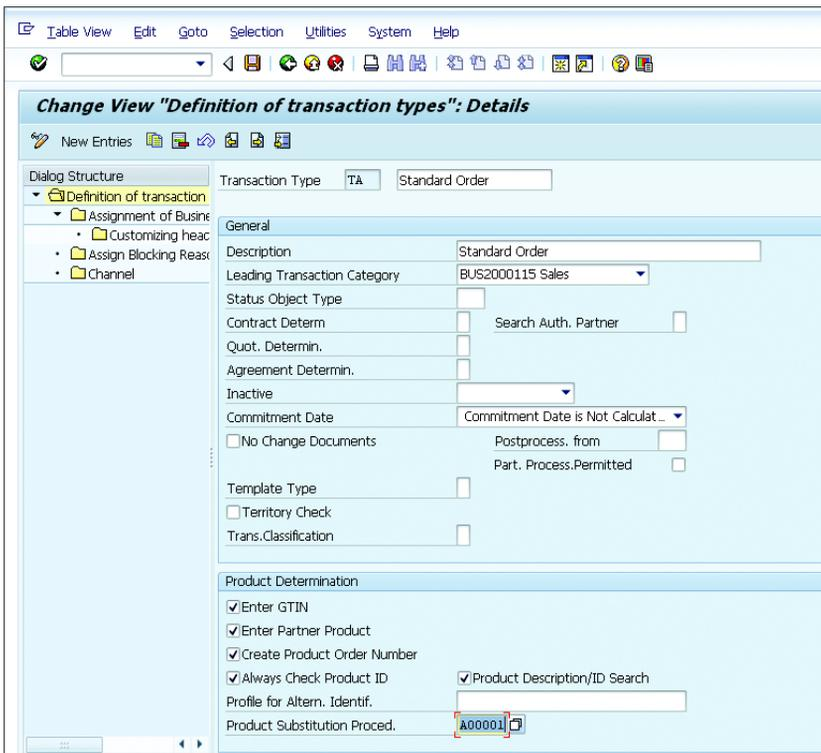

Figure 4.37 Assigning the Product Substitution Procedure to the Transaction Type
6. Assign the product determination procedure to the transaction type (see Figure 4.37) by following the customizing path, CUSTOMER RELATIONSHIP MANAGEMENT •